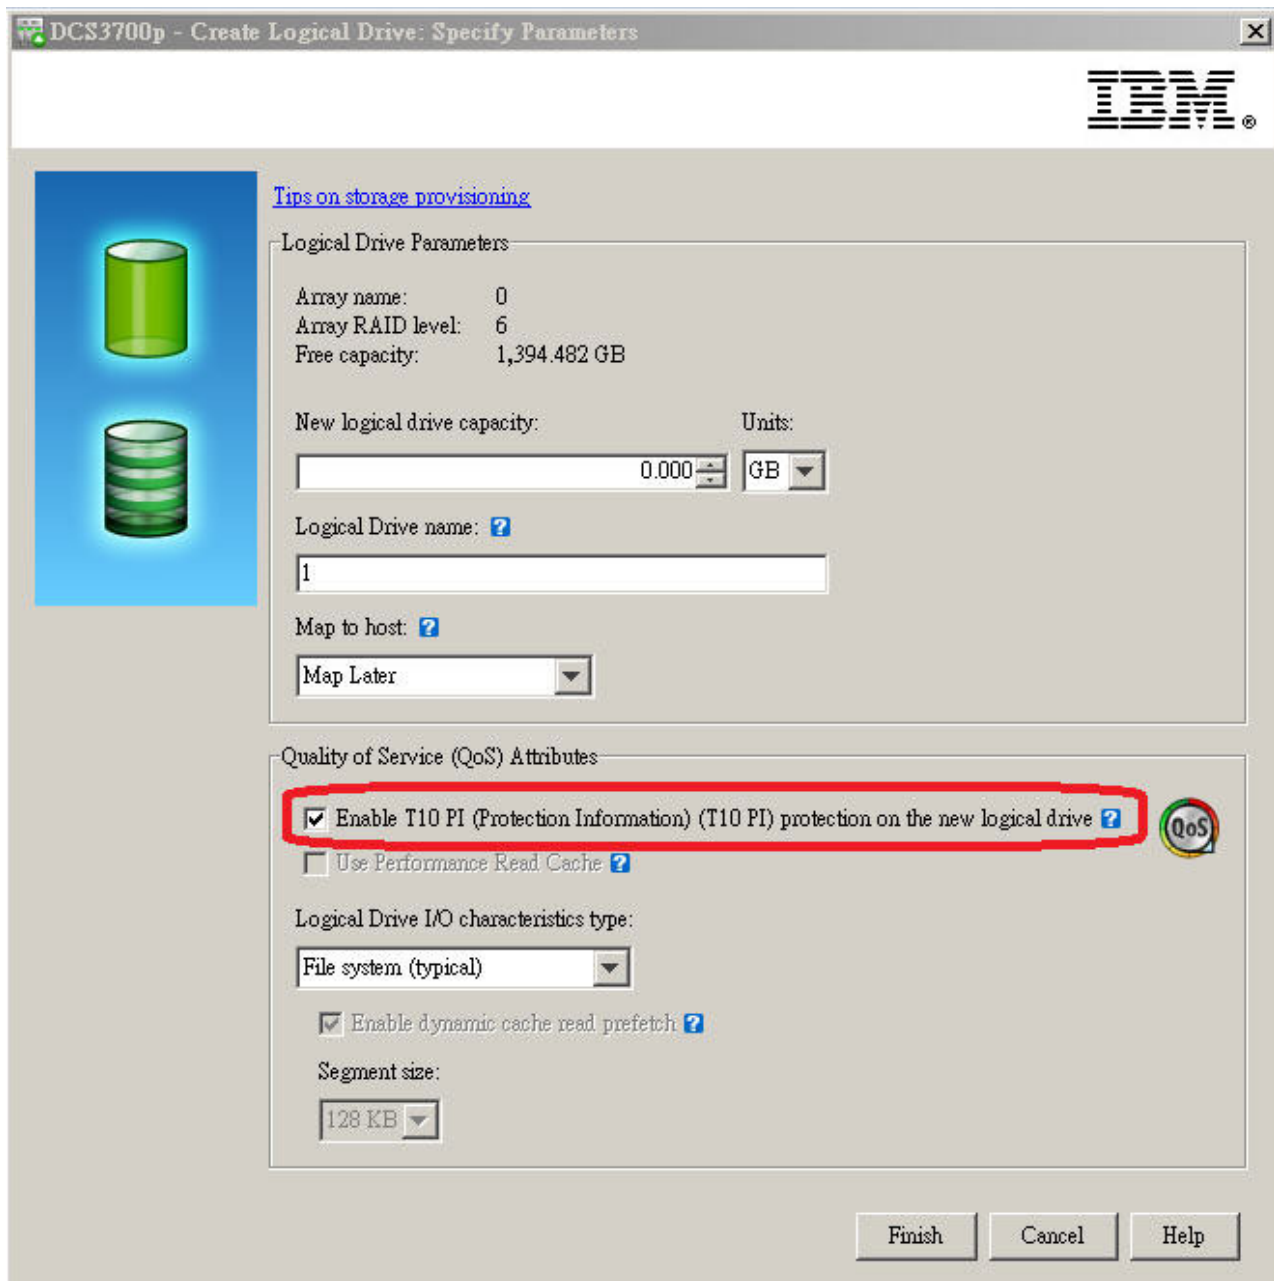

Figure 5. Enabling T10 PI on a logical drive
- In the Specify Capacity/Name (Create Logical Drive) dialog click **Enable T10 PI (Protection Information) (T10 PI) on the new logical drive** as shown in Figure 5 on page 55.